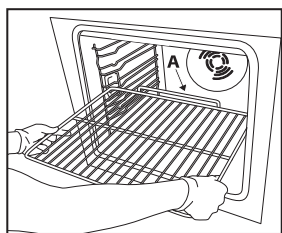

Fig. 1
1. Insert the wire shelf horizontally, with the raised part "A" 'upwards' (Fig. 1).